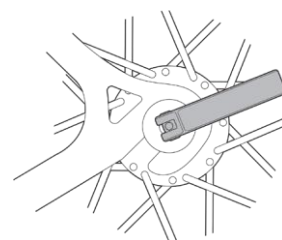

fig. 12a
1. With a cam action (Quick Release) system, move the cam lever to the OPEN position (see fig. 12a). The lever should be on the side of the wheel opposite the derailleur and freewheel sprockets.